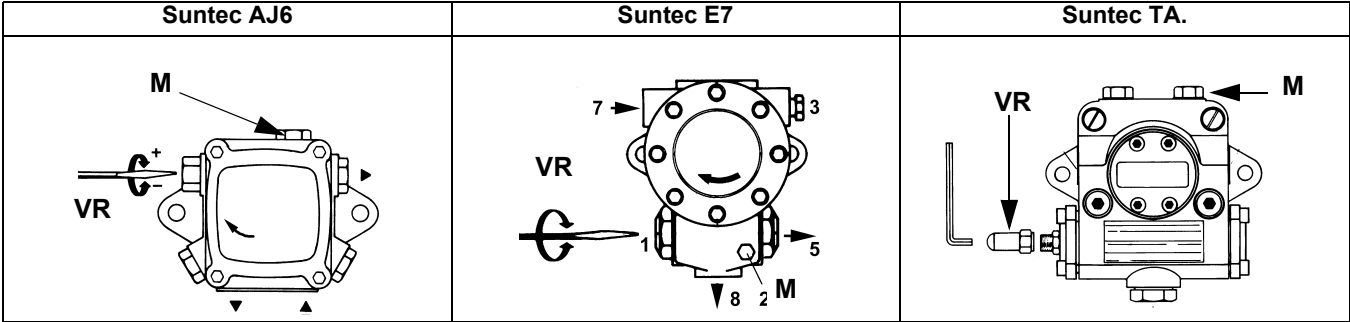

Fig. 28
- 3 bleed the air from the **M** pressure gauge port (Fig. 28) by loosening the cap without removing it, then release the contactor.